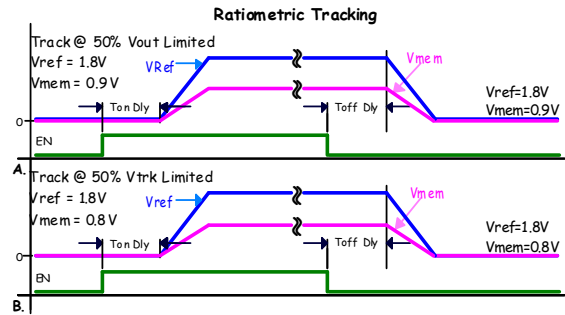

FIGURE 18. RATIOMETRIC TRACKING
1. Track at 50% V_{OUT} limited. Member rail tracks the reference rail and stops when the member reaches 50% of the target voltage, Figure 18\(A\).
2. Track at 50% VTRK limited. Member rail tracks the reference at the instantaneous voltage value applied to the VTRK pin until the member rail reaches 50% of the reference rail voltage, or if the member is configured to less than 50% of the reference the member will achieve its configured target, Figure 18\(B\).